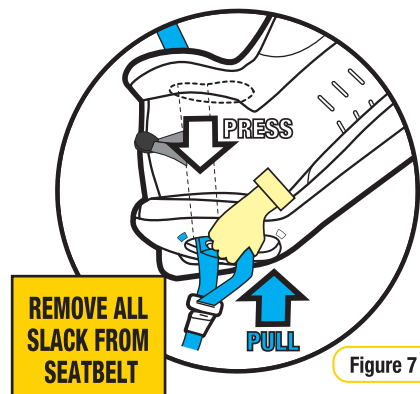

Figure 7
Step 7: Push down on the base of the restraint (with knee or hand) whilst pulling the sash section of the vehicle belt firmly up in direction of the blue arrow in Figure 7. (This will tighten the lap belt across the seat base).